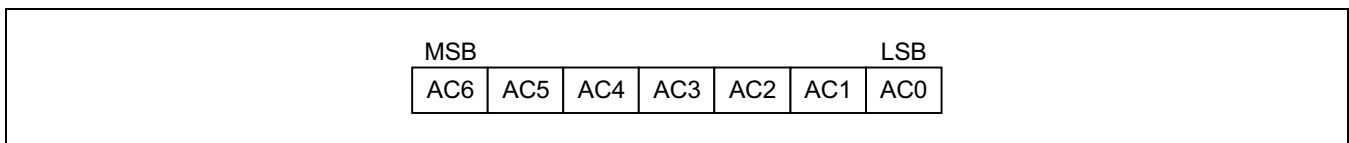

Figure 1. DDRAM Address
DDRAM stores display data of maximum 80 x 8 bits (80 characters). DDRAM address is set in the address counter (AC) as a hexadecimal number. (refer to Figure 1.)